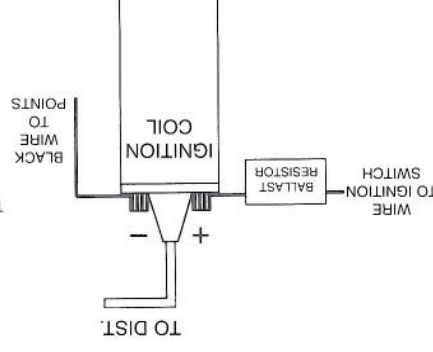

FIGURE 2
13. For installations that do not use a primary ballast resistor, connect the *Ignitor* red wire to the positive (+) side of the ignition coil. (See Figure 2).
5. The **red** wire from the Ignitor must be connected to the **positive (+)** side of the coil, or a 12 volt switching power source. (See Figure 2 & 3). The black wire must be connected to the negative (-) side of the coil.